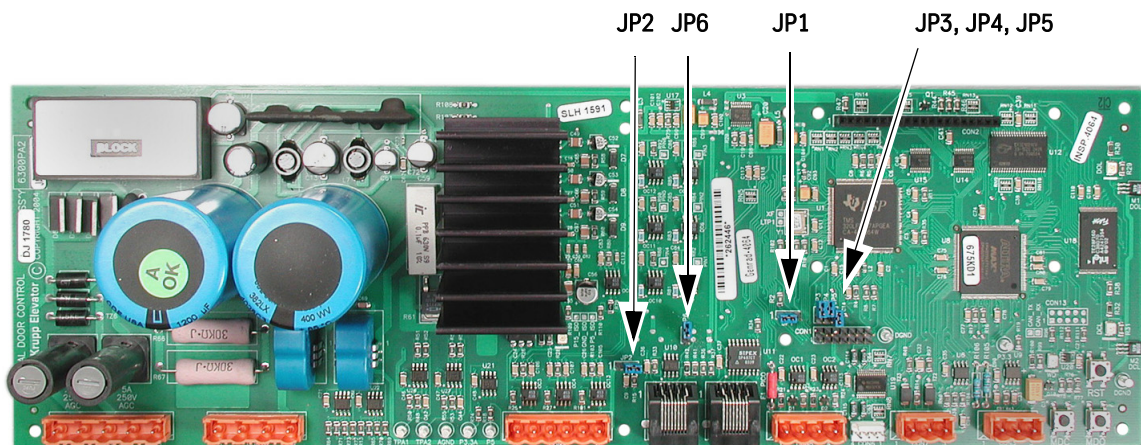

Figure 2 - Door Operator Card with Jumper Settings and Positions
2. Verify that the following jumper settings and positions are correct. See Figure 2.